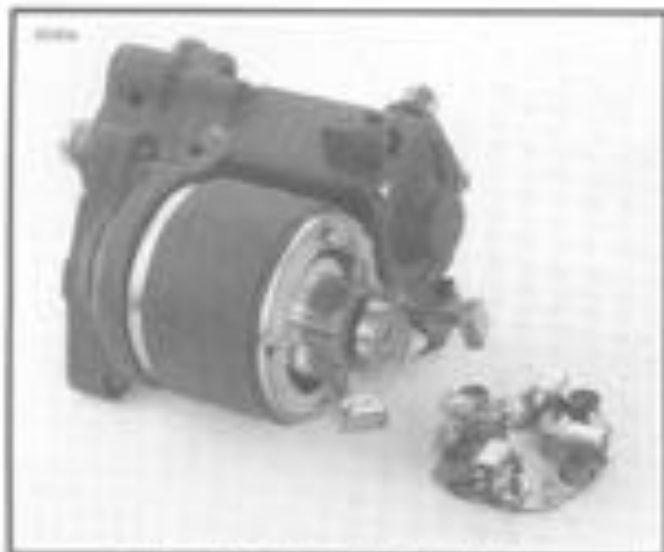

Figure 5-12. Removing Brush Holder
4. See Figure 5-12. Use a wire hook to pull upward on brush springs, and lift brushes out of holder. Remove brush holder.